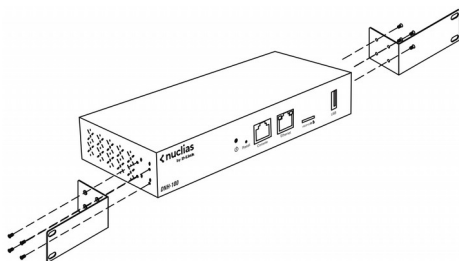

Figure 3. Attaching the Rack Mount Brackets
1. Attach the L-shaped mounting brackets to each side of the chassis as shown in Figure 3 and secure them with the screws provided.